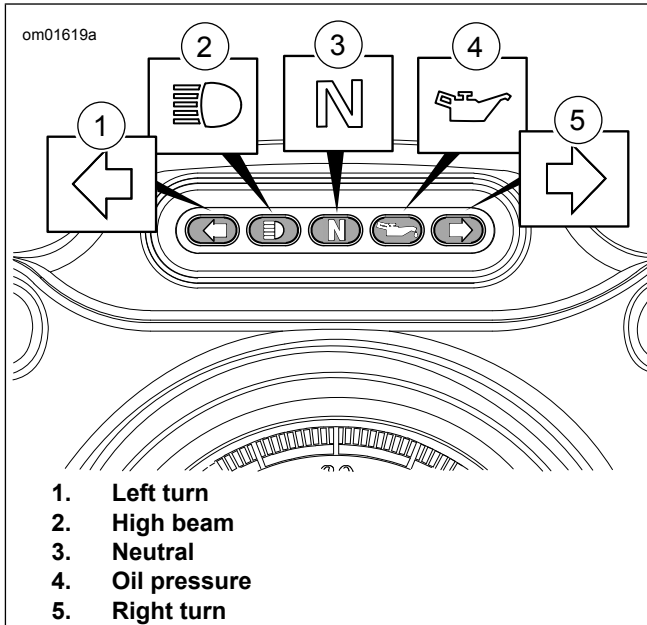

Figure 26. Indicator Lamp Bar
See Figure 26. The turn indicators (1, 5) flash when a turn signal is activated. When the 4-way hazard flashers are operating, both turn indicators flash simultaneously.
See Figure 26. The headlamp high beam indicator lamp (2) is lit when the high beam or flash to pass switch is activated.
See Figure 26. The neutral indicator lamp (3) is lit when the transmission is in neutral.
See Figure 26. The oil pressure indicator lamp (4) is lit when sufficient oil is not circulating through the engine.